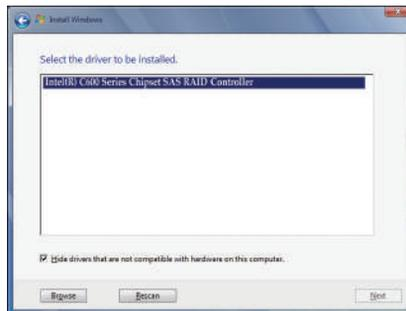

Figure 1
For Intel C606, select **Intel(R) C600 Series Chipset SAS RAID Controller** (Figure 1). Click **Next** to load the driver and continue the OS installation.